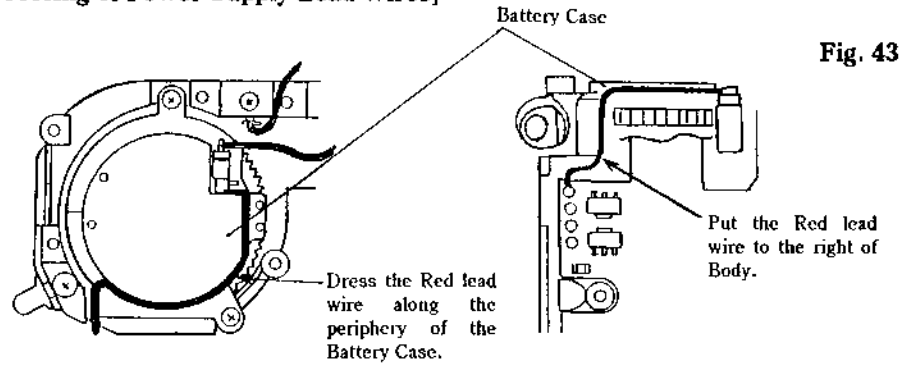

Fig. 43
- 1) Dress the lead wires as shown in Figs. 43 to 47: